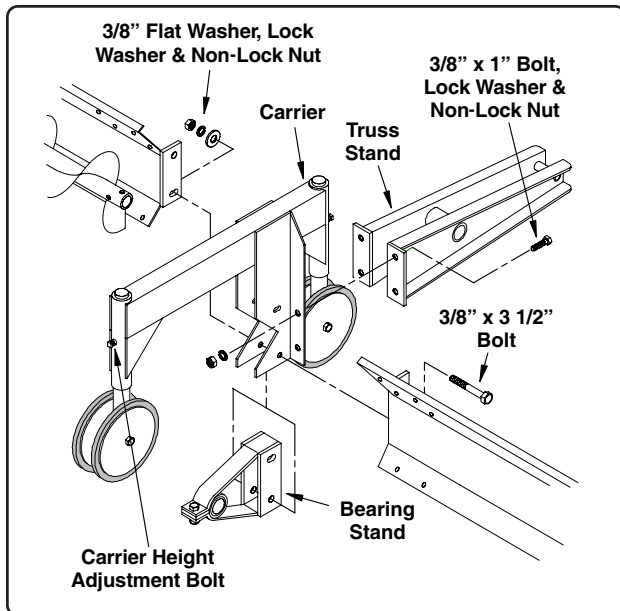

Fig. 17
1. The carrier needs to have a bearing stand inserted between the mounting angles before the shields can be attached (See Fig. 17).
2. Attach the truss stand to the carrier (See Fig. 17) and secure using four 3/8" x 1" bolts, lock washers and non-lock nuts.